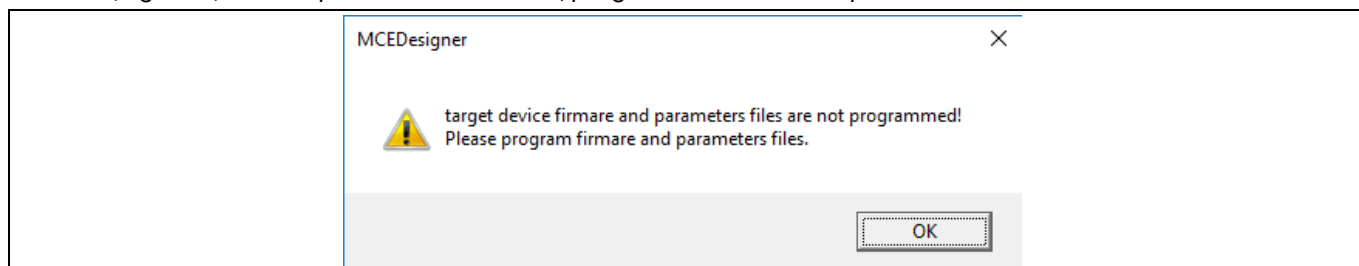

Figure 6 MCEDesigner warning message
7. *In case of blank IC: If the firmware has been erased from the IMC302A, a warning message will pop up saying “Target device firmware and parameters file are not programmed! Please program firmware and parameters file.” (Figure 6) See step 9 on how to obtain/program firmware and parameters.*